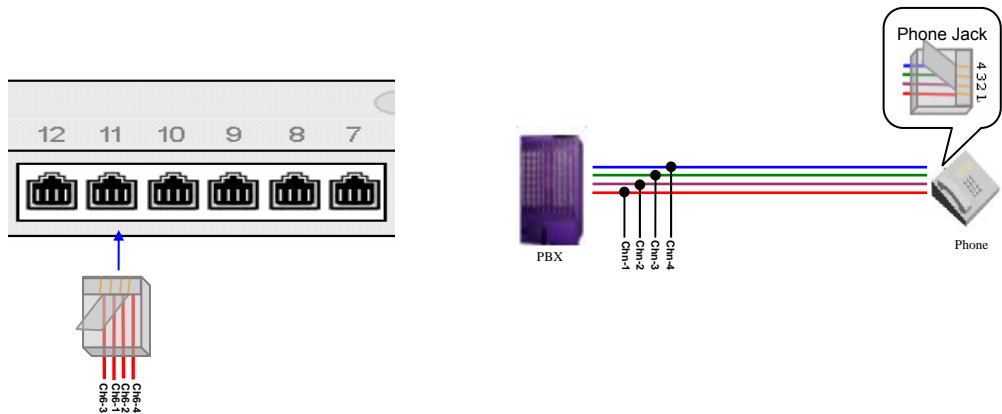

Figure 2-10
- 3) NOTEL M2250 digital phones: See Figure 2-10 below. In parallel, connect the 1st and 2nd leads of the communication line between the PBX and a phone to the 2nd and 3rd pins of each odd-numbered RJ11 jack on the adapter, and the 3rd and 4th leads to the 1st and 4th pins.